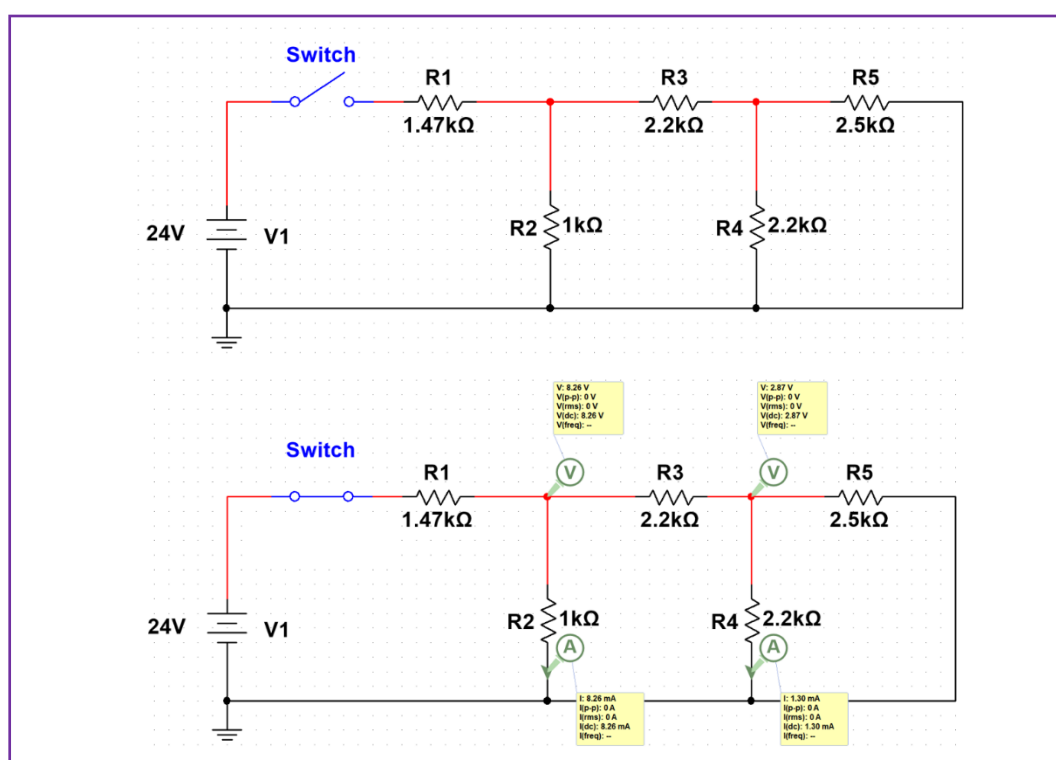

Fig 2.1: Circuit Diagram Showing Resistive Network Connected in MultiSim Software
- Make the circuit connection as per the Fig. 2.1.